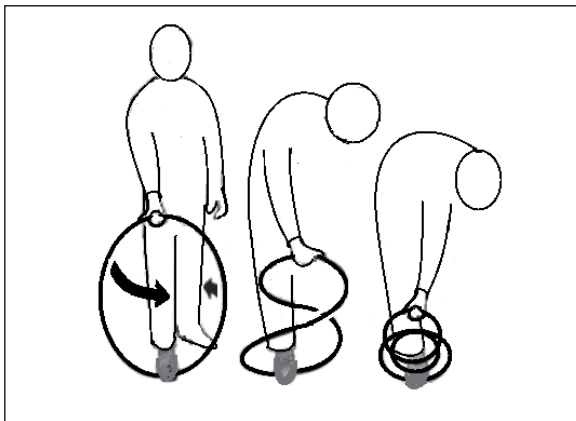

Fig 50
- Lift the motor with handle (B) and lock handle (A)
- Re-tension the belt by pushing down the handle (B) with moderate pressure.
- Lock the locking handle (A).
- Hold the bandsaw blade in one hand. Let it hang down vertically and hold it to the floor with a foot. Turn your hand through 360°, a complete circle, as you move it down towards the floor (Fig 50).